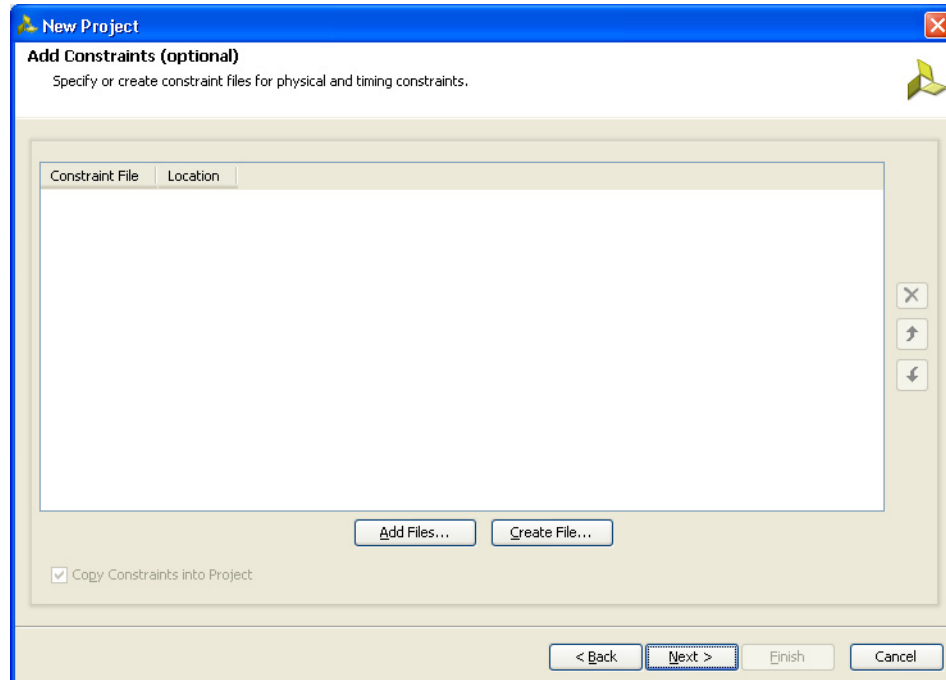

Figure 5-7: Add Constraints (Optional)
7. Click **Next** to open the Add Constraints (Optional) page (Figure 5-7). If the constraints file exists in the repository, it can be added to the project. Proceed to the next page if the constraints file does not exist.